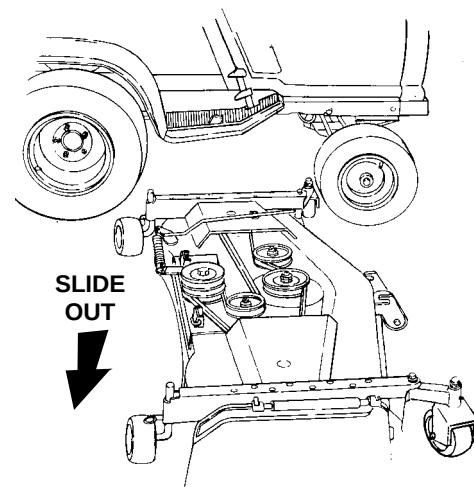

Figure 60
15. With the tractor implement lift handle raised to its highest setting, slide the deck to the right and out from under the tractor (Refer to Figure 60).